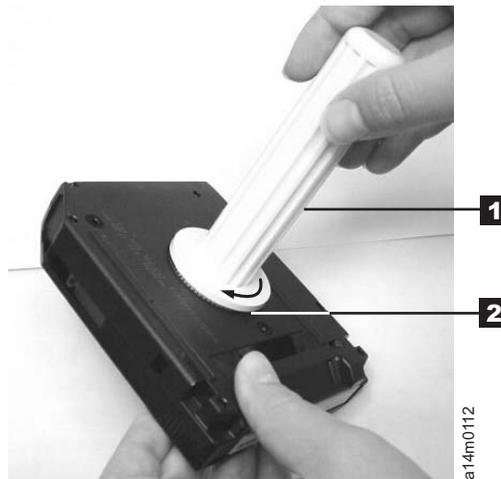

Figure 58. Rewinding the tape into the cartridge
5. To rewind the tape, insert the cartridge manual rewind tool (see **1** in Figure 58) into the cartridge's hub **2** and turn it clockwise until the tape becomes taut.